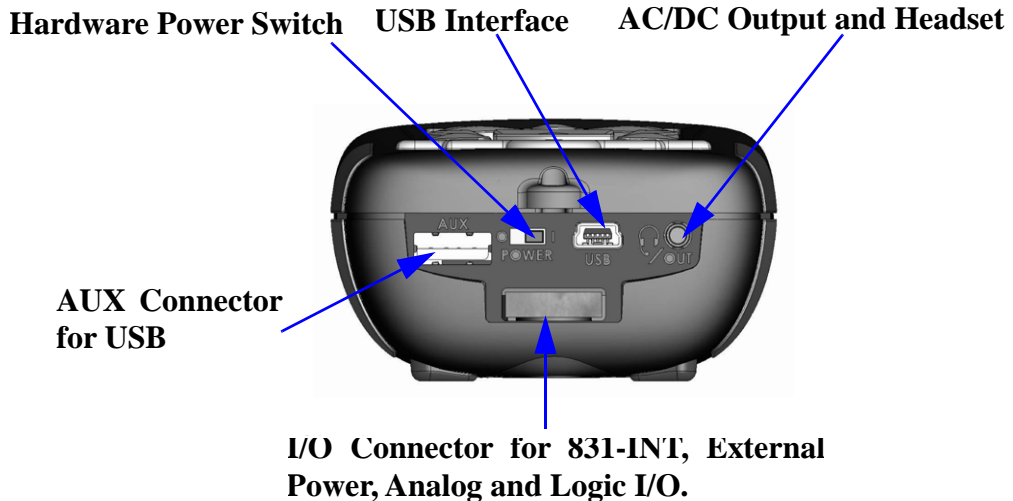

FIGURE 3-2 Model 831 Bottom View
- AC/DC output, control, USB, and external power connectors (shown in FIGURE 3-2)
FIGURE 3-2 shows the bottom view of the Model 831.